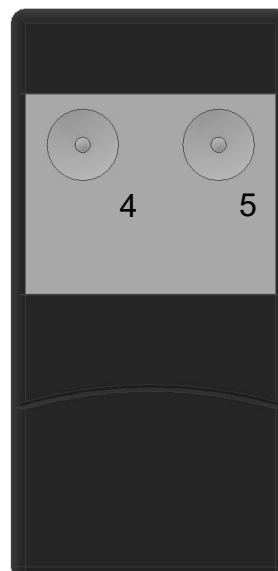

fig. 5
3. While holding down the programming button, press the first button on the handheld transmitter at the same time (fig.5 no.4). The LED (fig.4 no.3) now flashes quickly after the hand transmitter recognition.
5. To read in the second channel, repeat the process from step 2 using the second button on the handheld transmitter (fig.5 no.5).